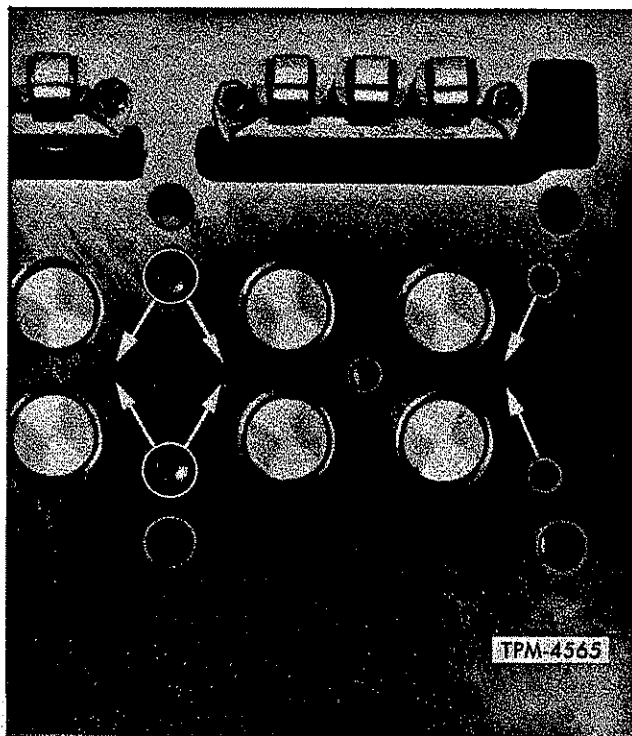
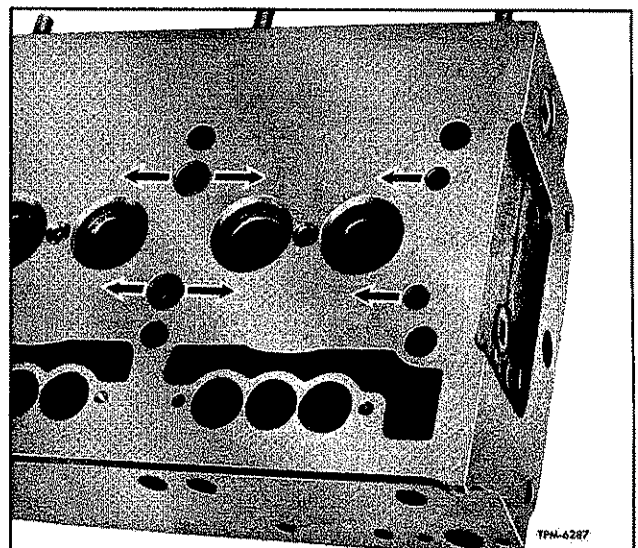

Figure 85—Cylinder Head Water Nozzle Installation
Figure 86—Cylinder Head Water Nozzle Installation
4. On two valve heads, press nozzles into place with their openings parallel with the center line of engine (fig. 86). On four-valve heads, press the nozzles into heads so that openings are directed diagonally across the head. Refer to figure 85.